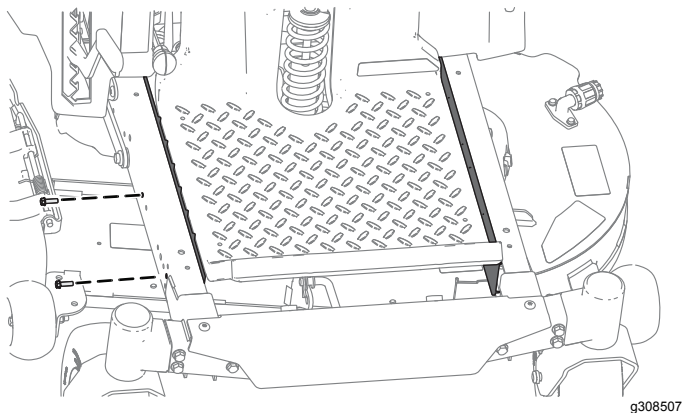

Figure 3
2. Remove the guards on both sides of the frame (Figure 3).
2. Secure the guards to the frame using the bolts removed in 2 Removing the Guards \(page 5\) as shown in Figure 3.